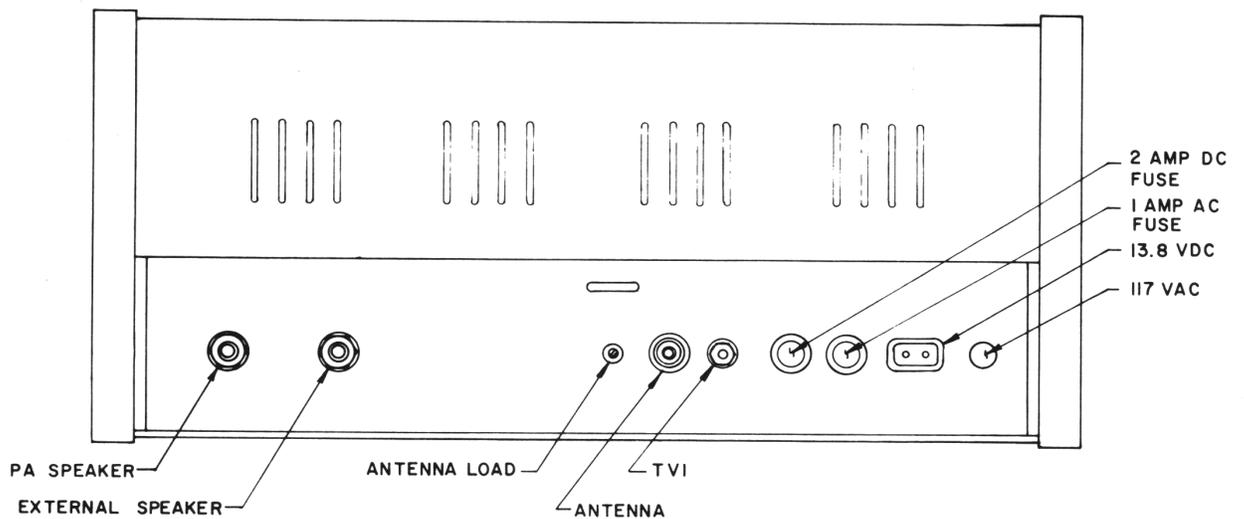

FIGURE 2, REAR PANEL CONNECTIONS
- 1) Disconnect the AC power cord from the AC power outlet. Insert the DC power cord plug into the transceiver DC receptacle on the rear of the chassis (See Figure 2).